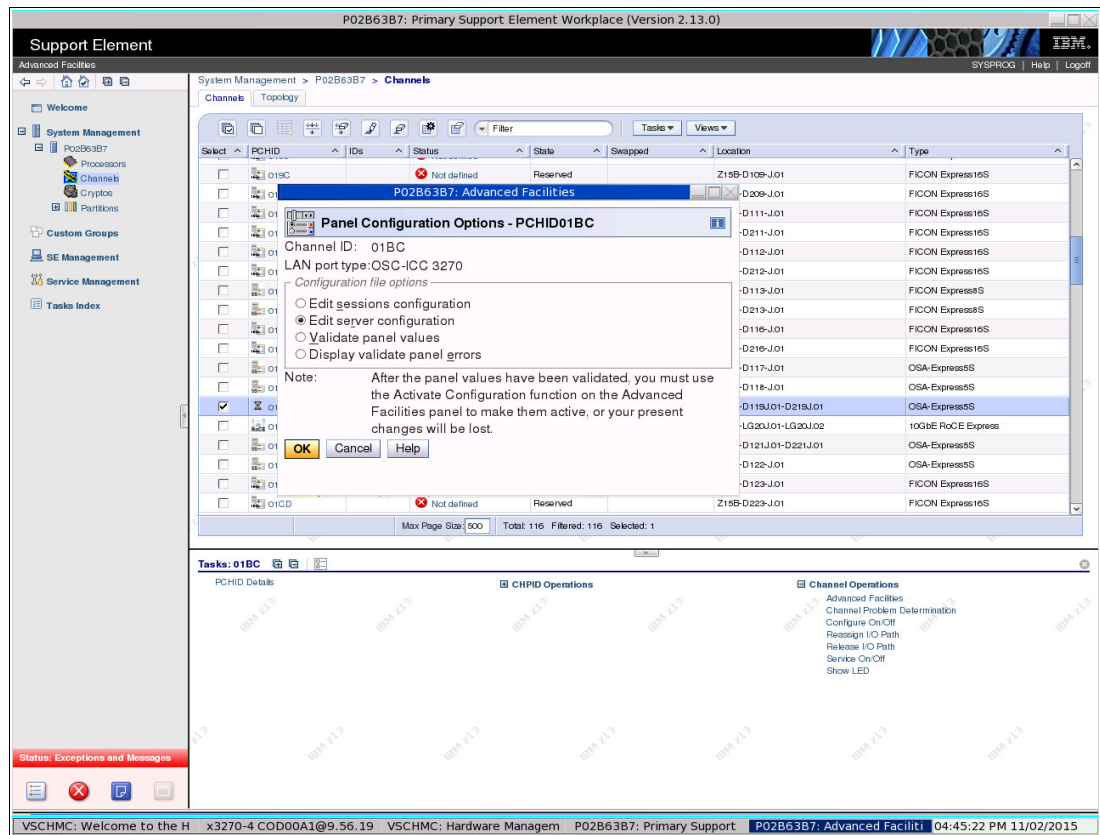
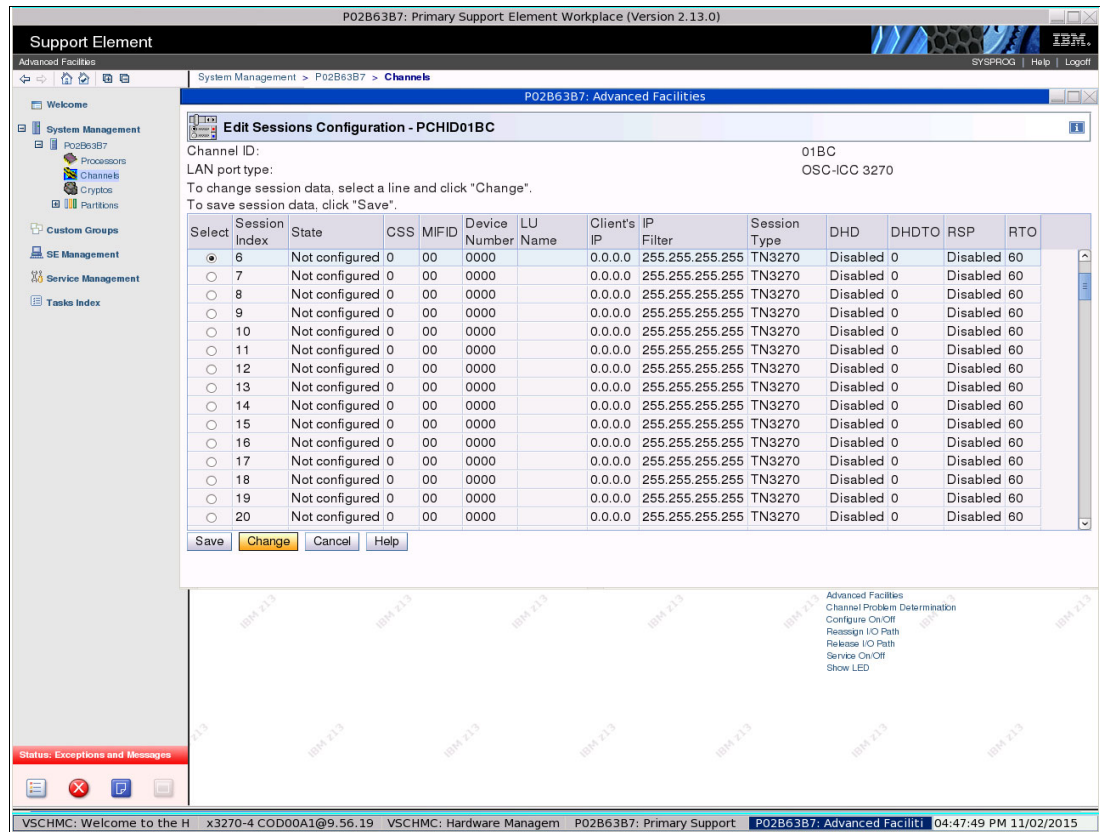

Figure 7-7 Panel configuration options
Figure 7-10 Session Configuration Ports panel
1. In the Panel Configuration Options window, we select **Edit server configuration**, and then, **OK**, as shown in Figure 7-7.
1. Starting with the Panel Configuration Options panel (as shown in Figure 7-7 on page 117), we select **Edit Session Configuration** and then, select **OK**. The Edit Sessions Configuration panel is displayed. All the ports show a status of “Not configured,” as shown in Figure 7-10.